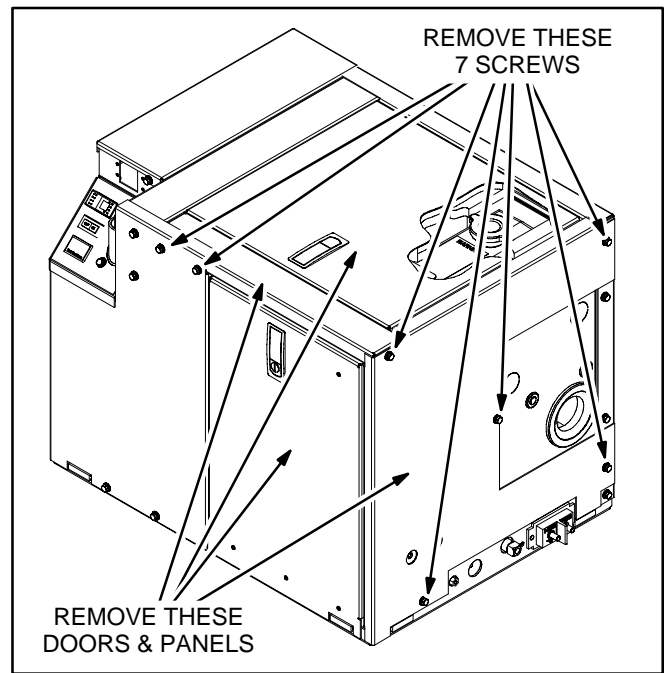
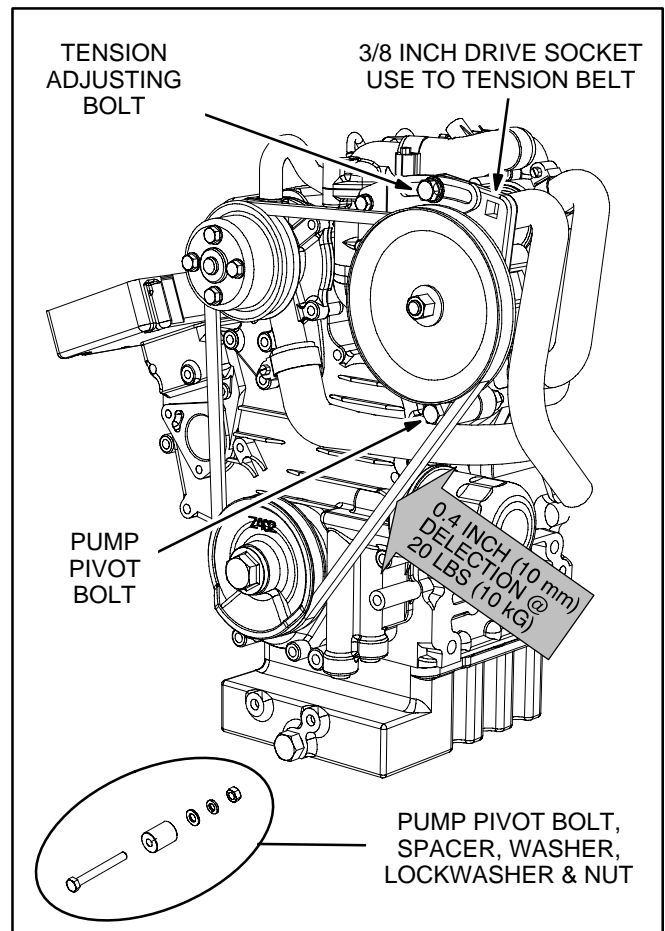
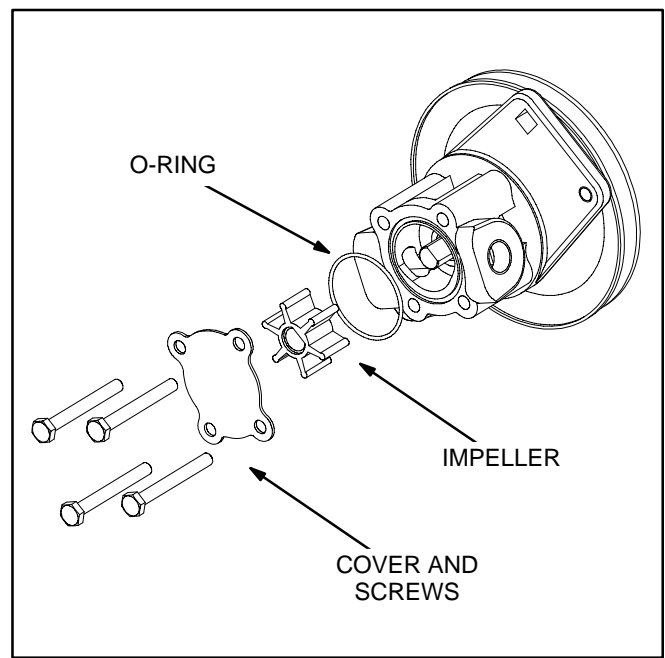

FIGURE 4-6. REMOVING ACCESS PANELS
FIGURE 4-7. ADJUSTING V-BELT TENSION
**FIGURE 4-8. REMOVING RAW WATER PUMP**
2. Remove the front and top access doors. If work space is limited, remove the end panel (Figure 4-6) to be able to hold the nut on the pump pivot bolt (Figure 4-7) with an open-end wrench while loosening the bolt.
See Table 4-1 for scheduled replacement. Have towels and containers ready and avoid spilling raw water on the electrical components below the pump. Referring to Figures 4-8 and 4-9, replace the impeller as follows:
3. Remove the front and top access doors. If work space is limited, remove the end panel (Figure 4-6) to be able to hold the nut on the pump pivot bolt (Figure 4-8) with an open-end wrench while loosening the bolt.
4. Loosen the hose clamps shown in Figure 4-8 and disconnect the hoses.